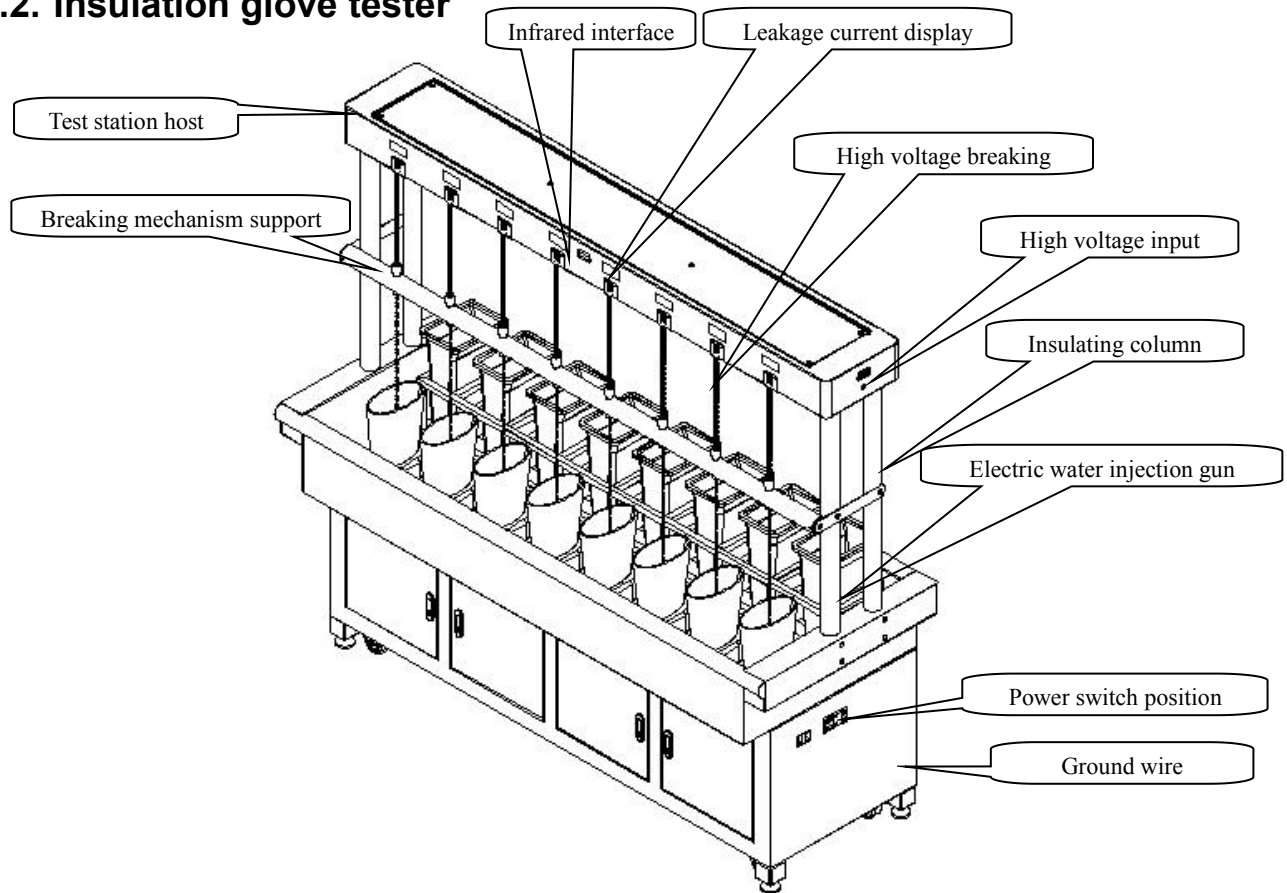

Fig. 2 Insulation glove tester
- 3) Mainframe installation:Reference *figure 2 insulation gloves teste* install the test bench host.The two groups of insulating columns are inserted into the flume corresponding to the fixed holes, and the mounting position of the supporting arm of the breaking mechanism is made forward;Install the breaking mechanism support arm, so that the breaking mechanism vertical upward, tighten the fixing bolts;insert the testing host into the top of the insulation column.